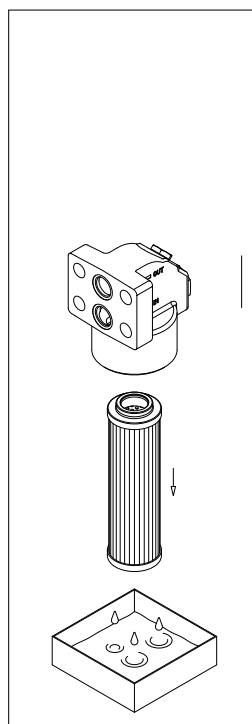

fig. 6
- (Fig. 6) Pull the filter element out